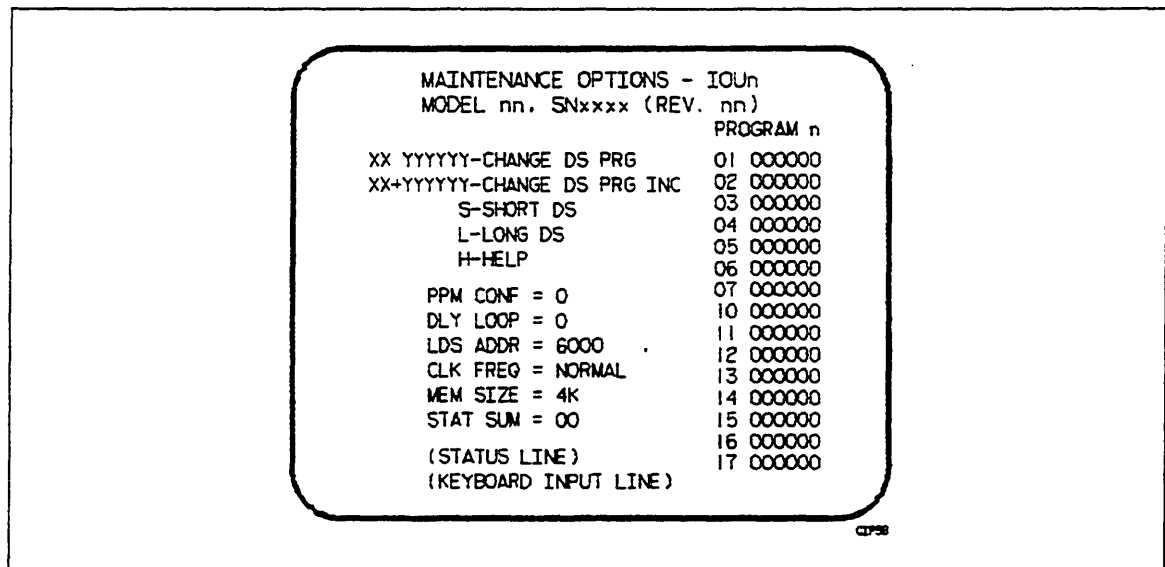

Figure 3-5. Maintenance Options - IOU0/IOU1 Display
- b. Type 0 to bring up the MAINTENANCE OPTIONS - IOU0 display or 1 to bring up the MAINTENANCE OPTIONS - IOU1 display. Refer to figure 3-5.
- ___ a. Type M to bring up the MAINTENANCE OPTIONS display. Refer to figure 3-5.